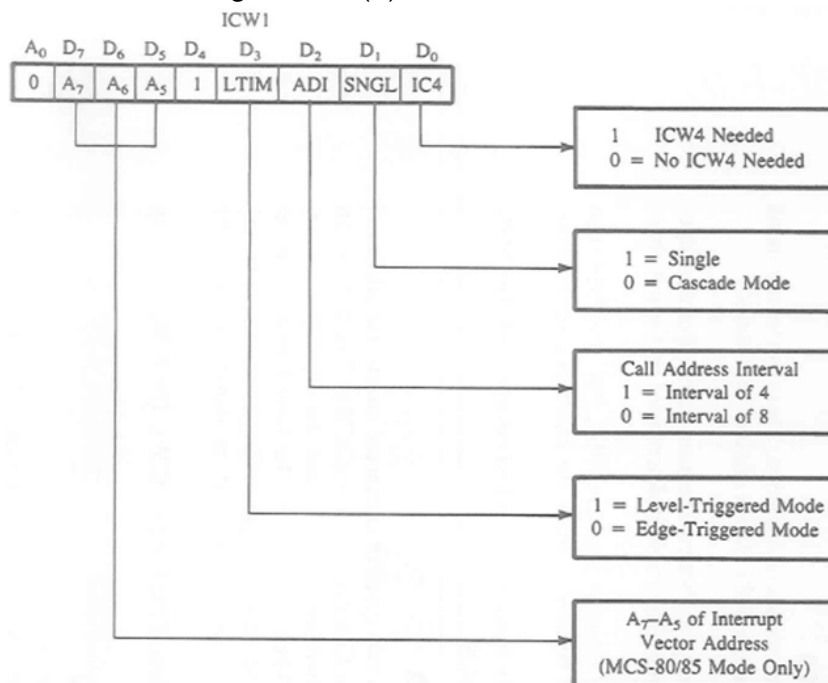

Figure 3.14(a)
- ❖ Figure 3.14 shows the bit specification of the first two ICWs. The ICW₁, shown in figure 3.14(a), specifies
3. The address bits A₇-A₅ of the CALL instructions; the rest are supplied by the 8259A, as shown in figure 3.14(b).